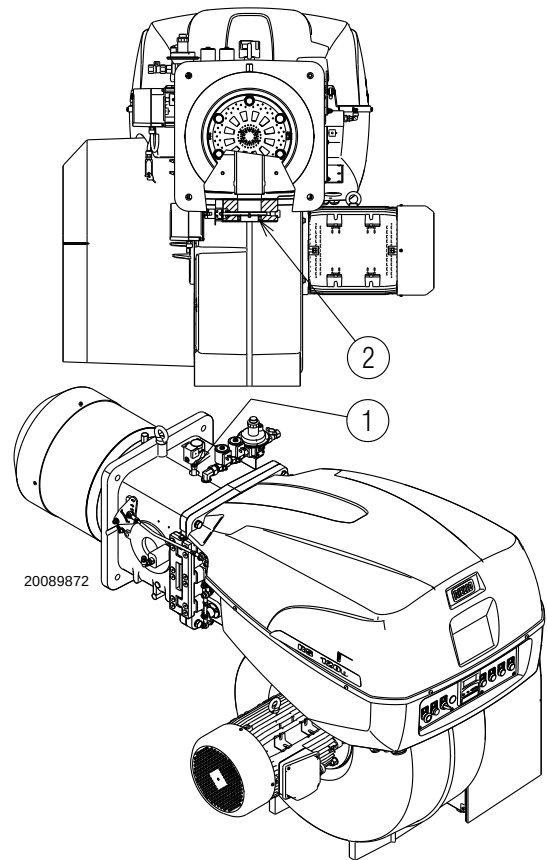

Fig. 21
Gas pressure measured at the test point 1) (Fig. 21), with:
Pressure loss at gas butterfly valve 2)(Fig. 21) with maximum opening: 90°.
- subtract the combustion chamber pressure from the gas pressure measured at test point 1)(Fig. 21).
To calculate the required gas pressure at test point 1) (Fig. 21), set the maximum modulating output required from the burner operation:
- read, on the right (column 1), the pressure at the test point 1) (Fig. 21).
Pressure required at test point 1)(Fig. 21).